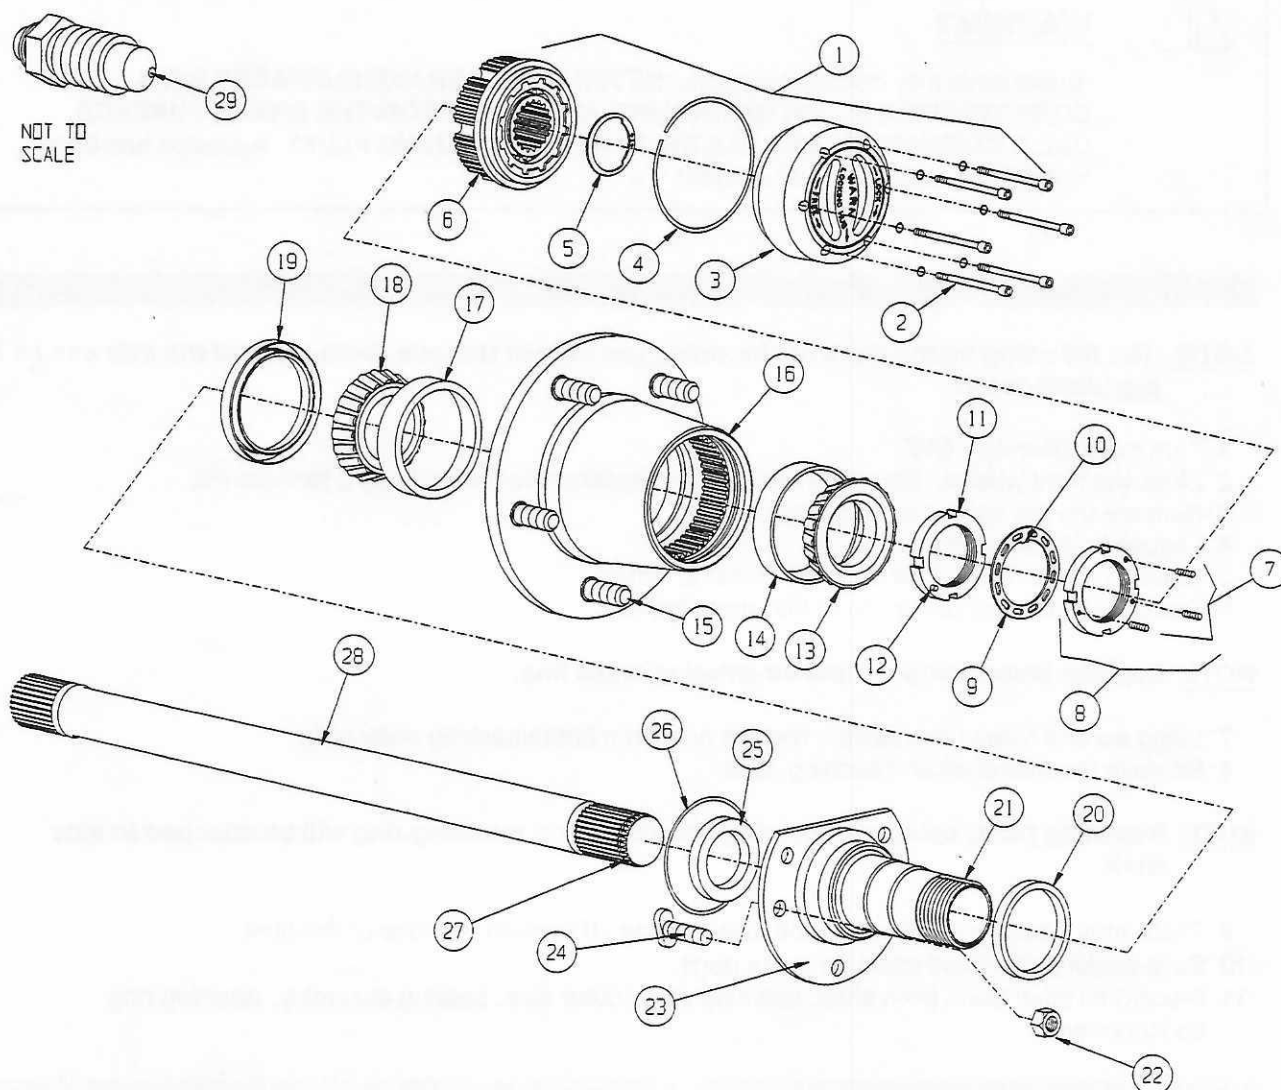

Figure 2. Full Floating Axle Kit.
This sheet provides guidelines to install the WARN Full Floating Axle Kit (Figure 2). There are **NOTES**, **CAUTIONS**, and **WARNINGS** which should be followed during installation to avoid possibility of personal injury or damage to the vehicle. During installation, standard safety precautions and equipment should be used where appropriate. Because the skill and experience of the installer and the tools used can vary widely, it is impossible to anticipate all conditions under which this installation is made or to provide cautions for all possible hazards. If your installation varies from the instruction, you must be completely satisfied that your safety or the operation of the vehicle will not be compromised.
PARTS LIST (Refer Item # to Figure 2)
2. Install V-seal on spindle with thick section inboard (Figure 2, Flag 20)
4. Thread inner nut (Figure 2, Flag 11) on spindle.
NOTE: Pin on nut should face outboard (Figure 2, Flag 12).
NOTE: Align tab on washer with spindle keyway (Figure 2, Flags 10 and 21).
NOTE: Pin on inner nut must fit into a slot on washer. If it doesn't, flip washer over and reinstall (Figure 2, Flags 12 and 9).
NOTE: Socket heads on set screws should face outboard (Figure 2, Flag 7).
1. Separate body assembly from cap assembly (Figure 2, Flags 6 and 3).
2. Install body assembly (Figure 2, Flag 6) on axle shaft.
NOTE: Install hublock body on axle end that has retaining ring groove (Figure 2, Flag 27).
3. Using snap ring pliers, install axle retaining ring (Figure 2, Flag 5).